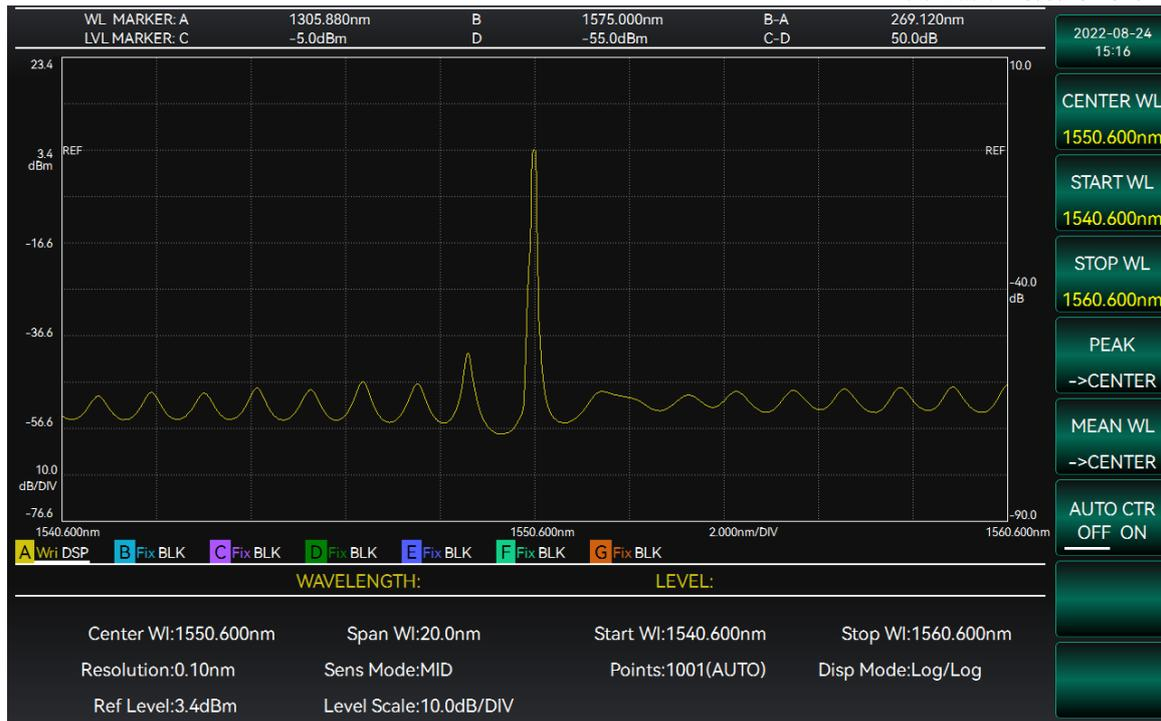

Figure 3-13 Setting center wavelength interface
2. Select [CWL] / [SWL] / [EWL] and enter the wavelength value via the knob or number keys to complete the setting. The operation interface is shown in Figure 3-13.